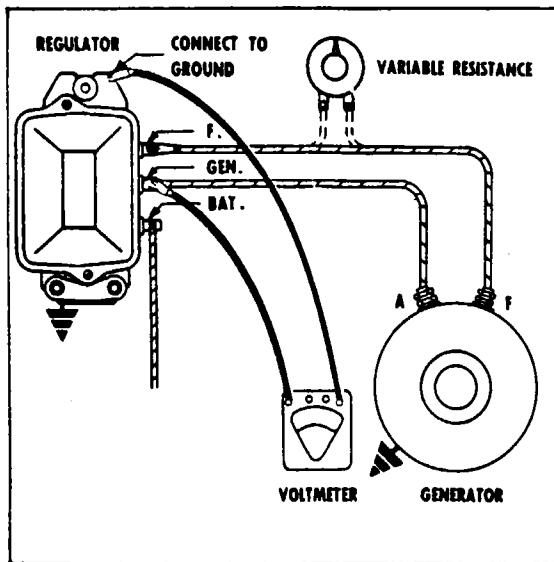

Figure 11-14. Checking Cutout Relay Closing Voltage
c. Closing Voltage: Connect regulator to proper generator and battery. Connect voltmeter between the regulator "GEN" terminal and ground. (Refer to Figure 11-14.)